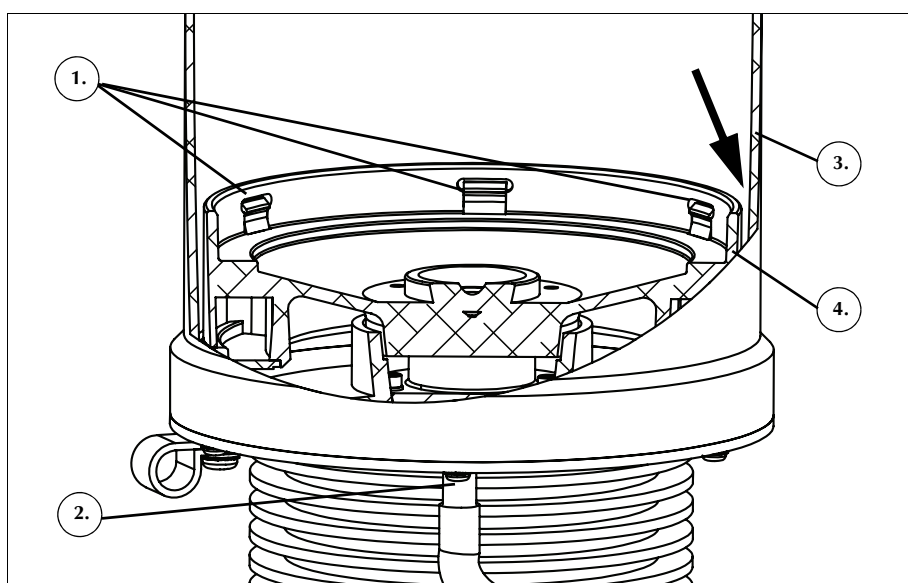

Figure 78, Irrigating the centrifuge drain holes
8. Use a 60 cc syringe to irrigate the centrifuge drain holes with water. Direct the fluid into the gap between the chuck and the centrifuge wall (See Figure 78).